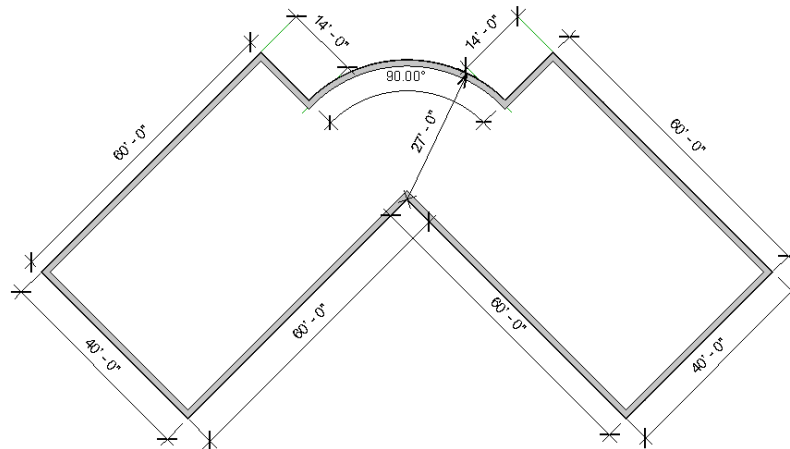

Figure 3-41 Sketch plan for the Club project
Create the exterior walls of the club building whose sketch plan is shown in Figure 3-41. The dimensions given are to be measured from the exterior faces and are not to be created. The parameters to be used for creating the exterior walls of the club building are given next.
- e. Change the **Location Line** parameter to **Finish Face: Exterior**, refer to Figure 3-41.